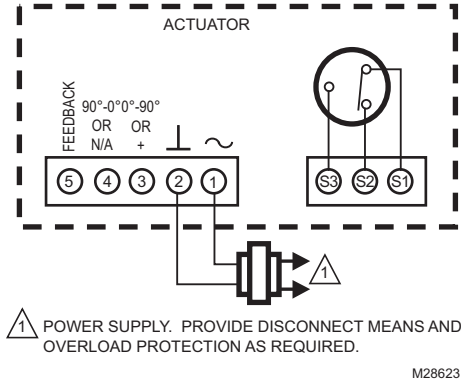

Fig. 10. Terminal block details.
Some models include an adjustable end switch. For wiring details, see Fig. 10.
2. Connect power to terminals 1 and 2. (See Fig. 10 and Table 2.)
4. Apply control signal for actuator full open or full closed position. (See Fig. 10 and Table 2.)
- a. (0)2-10 Vdc: apply 10 Vdc signal to terminal 3.
- b. 10-(0)2 Vdc: apply (0)2 Vdc signal to terminal 3.
- c. (0)4-20 mA: apply 20 mA signal to terminal 3.
- d. 20-(0)4mA: apply (0)4 mA signal to terminal 3.
- e. Floating: apply 24 Vac to appropriate 0°-90° (3) or 90°-0° (4) terminal.
- 6. Apply control signal for actuator 0% position. (See Fig. 10 and Table 2.)
- a. (0)2-10 Vdc: apply (0)2 Vdc signal to terminal 3.
- c. (0)4-20 mA: apply (0)4 mA signal to terminal 3.
4. Apply control signal for actuator 50% position. (See Fig. 10.)
- c. Floating: apply 24 Vac to appropriate 0°-90° (3) or 90°-0° (4) terminal until device reaches 50%.